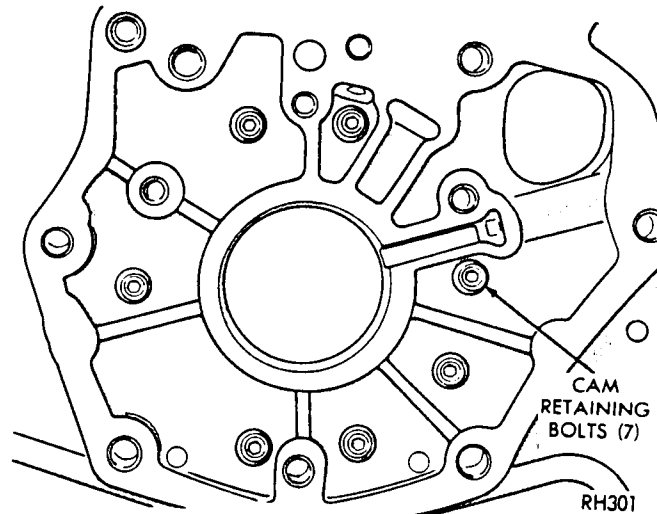
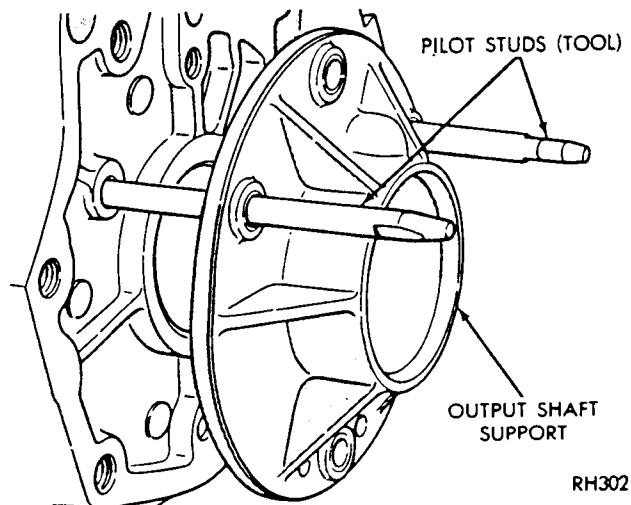

Fig. 37—Cam Retaining Bolts
Fig. 38—Installing Output Shaft Support
(4) Carefully enlarge rivet holes in the case with a 17/64 inch drill. Remove all chips and foreign matter from the case, make sure cam area is free of chips and burrs.
(5) To install, position cam and roller spring retainer in the case. Align cam bolt holes with holes in the case, then thread all seven retaining bolt and washer assemblies into cam a few turns. The cone washers must be installed so inner diameter is coned toward the bolt head (Fig. 37).
(6) Tap cam firmly into the case if necessary. Draw retaining bolts down evenly, then tighten to 100 in. lbs. (11 N·m)
(7) Screw 2 pilot studs, Tool C-3288-B into the case (Fig. 38). Position support over the pilot studs, and tap it firmly into the case with a soft-faced hammer.
(8) Remove pilot studs, install bolts and tighten to 150 in. lbs. (17 N·m).